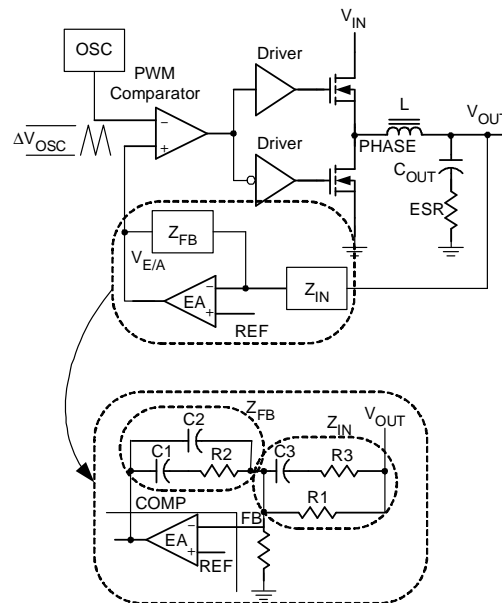
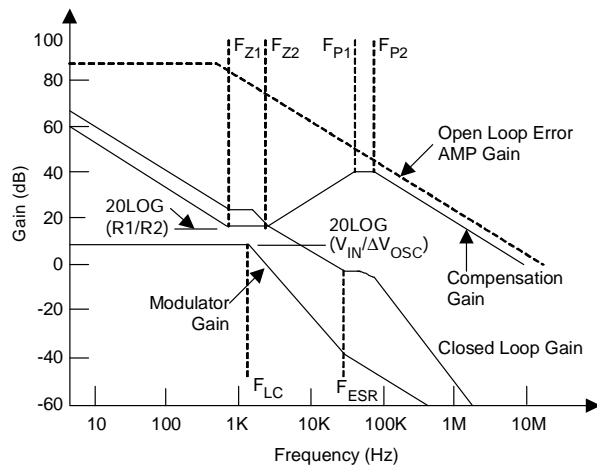

Figure 3
Figure 4
Figure 3 highlights the voltage-mode control loop for a synchronous buck converter. Figure 4 shows the corresponding Bode plot. The output voltage (V_{OUT}) is regulated to the reference voltage. The error amplifier EA output (COMP) is compared with the oscillator (OSC) sawtooth wave to provide a pulse-width modulated (PWM) wave with an amplitude of V_{IN} at the PHASE node. The PWM wave is smoothed by the output filter (L and C_{OUT}).
The compensation network consists of the error amplifier EA and the impedance networks Z_{IN} and Z_{FB}. The goal of the compensation network is to provide a closed loop transfer function with the highest DC gain, the highest 0dB crossing frequency (FC) and adequate phase margin. Typically, FC in range 1/5 to 1/10 of switching frequency is adequate. The higher FC is, the faster dynamic response is. A phase margin in the range of 45° C to 60° C is desirable. The equations below relate the compensation network poles, zeros and gain to the components (R1, R2, R3, C1, C2, and C3) in Figure 4.